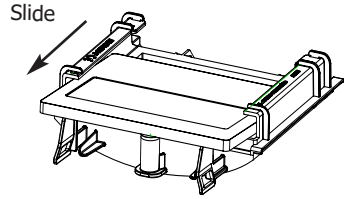

Figure 8
2. Pull up on bottom edge of filter and slide out of the bottom of the filter holder (see Figure 8)